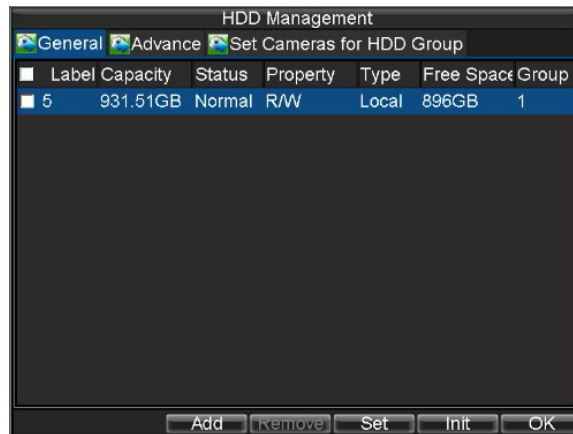

Figure10. HDD Management Menu
3. Select the HDD to be used for redundancy, as shown in Figure 10.